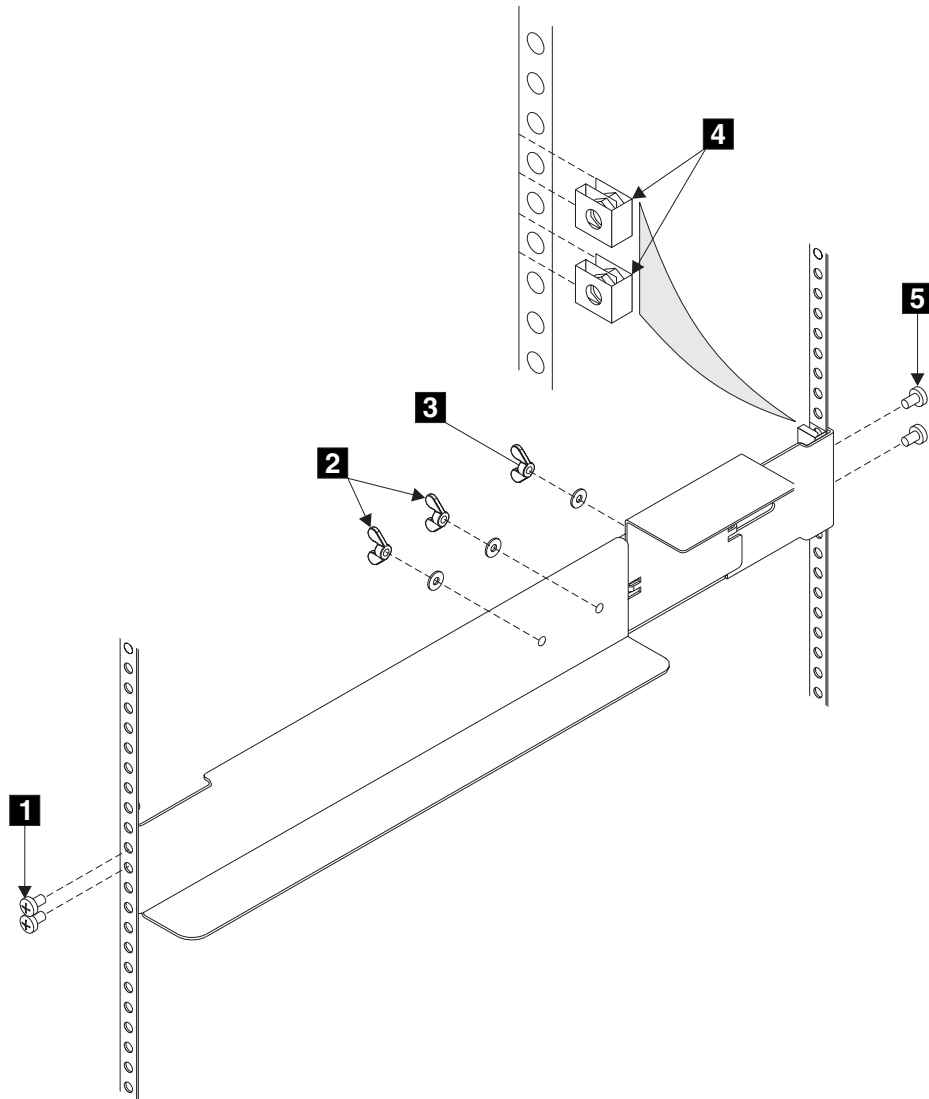

Figure 130. Removing support rails for a uninterruptible power supply from the rack
1. Refer to Figure 130 on page 184.